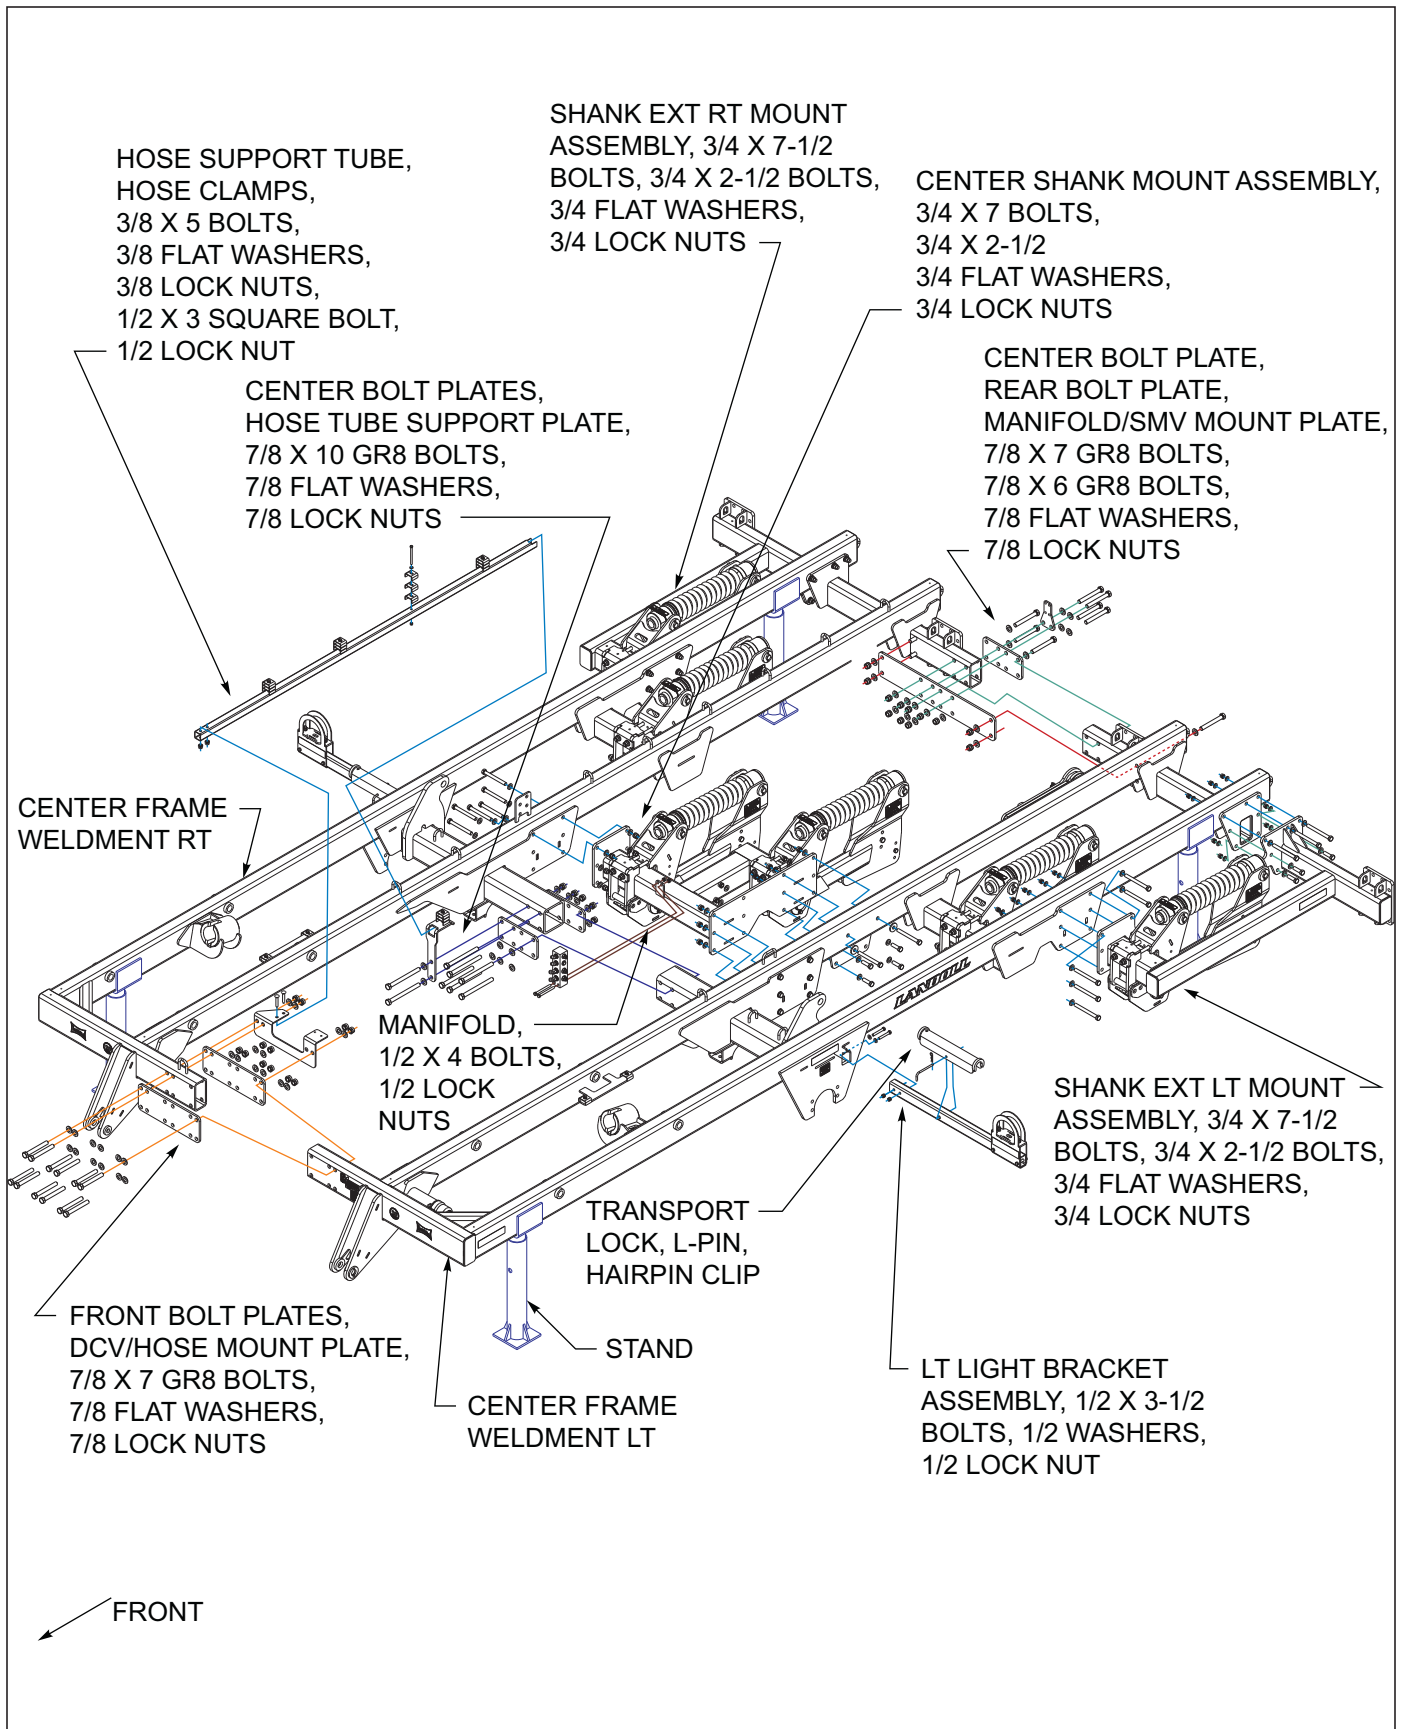

Figure 3-1: Center Frame Assembly 2411-06
1. Place center frame weldment RT/LT assemblies on stands approximately 36" high. The assembly area should be a large level area of sufficient size to accommodate the Weatherproofer when fully assembled *See Figure 3-1*. RT and LT is determined from standing at the back looking forward.